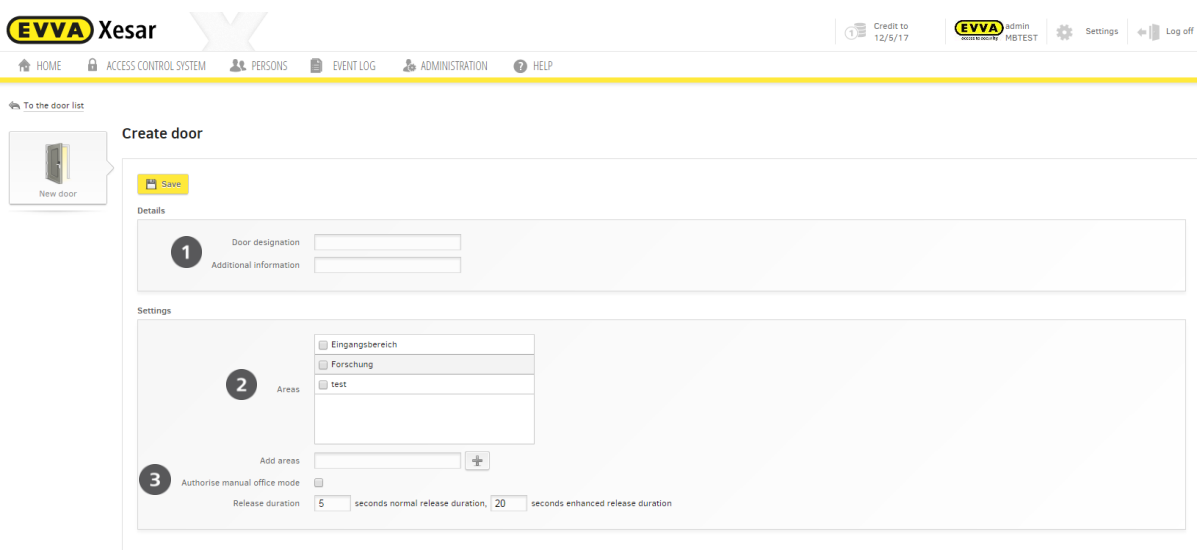

Figure 82: Creating doors
When you create doors it is important to enter a unique **Door designation** ❶ (mandatory field) to safeguard the doors in the software can be assigned to the doors within the facility, e.g. Main entrance. There is also the **Additional information** field ❷ (optional field) intended for additional door information, e.g. the room number (Figure 82: Creating doors).
Select the areas to which you would like to add doors in the **Areas** field ③. You can also create additional areas in this section (Figure 82: Creating doors).